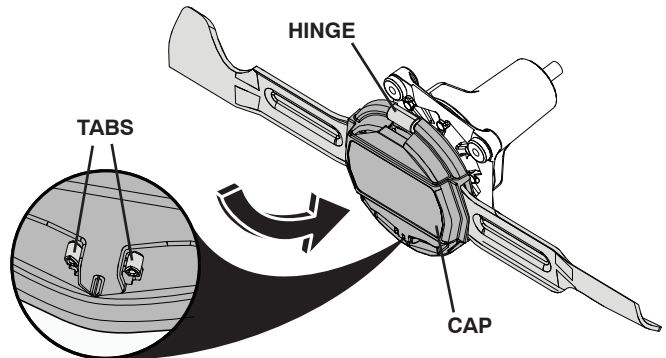

Fig. 24
- Reinstall cap. Hook cap onto hinge and rotate onto tabs. Press cap firmly into place, ensuring both tabs lock into cap. (See Fig. 24.)